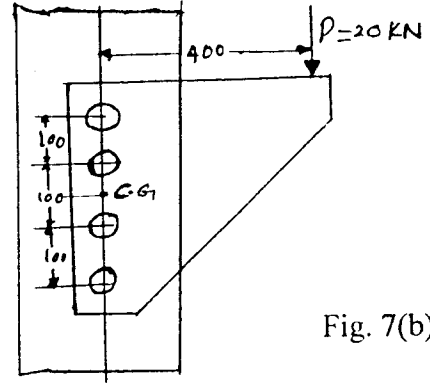

Fig. 7(b)
- b. For the riveted joint shown in fig. 7(b), determine the size of the rivet taking permissible shear stress in rivets as 60 MPa. (08 Marks)